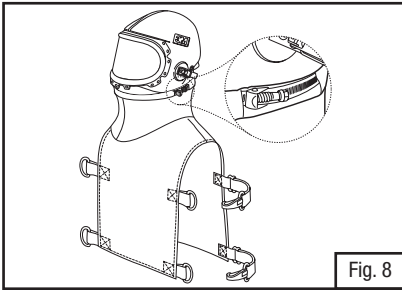

Fig. 8
3. Lift the screw clamp up and insert the belt into the slot below the screw. Insert excess band into the shroud slit (Fig. 8).